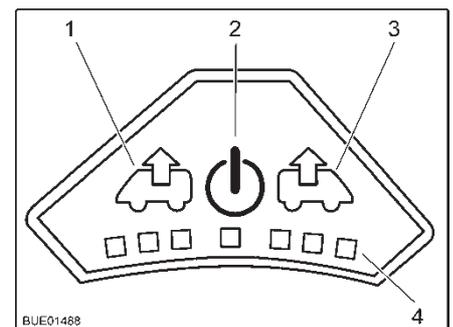

Fig. 115 Control panel for fan
- Press the On/Off button (Fig. 115,2). The fan runs in comfort mode (venting at slowest fan speed).
- To increase the fan speed: Press the Vent button (Fig. 115,1). The fan speed in the venting direction increases by one level. LEDs (Fig. 115,4) show the operating levels.
- To lower the fan speed: Press the Aerate button (Fig. 115,3). The fan speed decreases by one level.
- To increase the fan speed: Press the Aerate button (Fig. 115,3). The fan speed in the aerating direction increases by one step. LEDs (Fig. 115,4) show the operating levels.
- To lower the fan speed: Press the Vent button (Fig. 115,1). The fan speed decreases by one level.
- Press the On/Off button (Fig. 115,2). The fan stops, the LEDs go out.